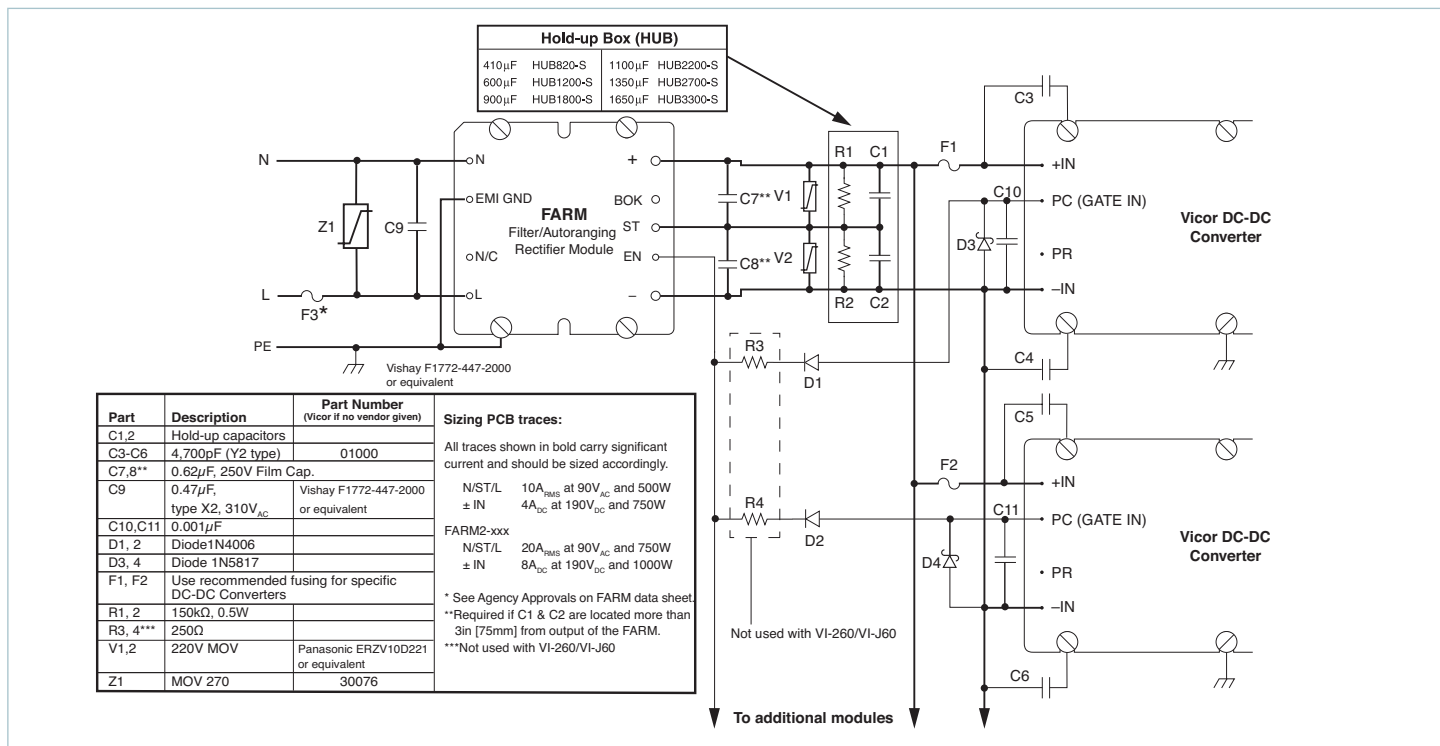

Figure 9 — Offline power supply configuration
Strap (ST) Pin: In addition to input and output power pin connections, it is necessary to connect the Strap pin to the center junction of the series hold-up capacitors (C1, C2, see Figure 9) for proper (autoranging) operation. Metal oxide varistors, V1 and V2 provide capacitor protection. The bleeder resistors (R1, R2, see Figure 9) discharge the hold-up capacitors when power is switched off. Capacitors C7 and C8 are recommended if the hold-up capacitors are located more than 3in [75mm] from the FARM output pins.
It should be noted that the series combination (C1, C2, See Figure 9) requires each capacitor to be twice the calculated value, but the required voltage rating of each capacitor is reduced to 200V. Allowable ripple voltage on the bus (or ripple current in the capacitors) may define the capacitance requirement. Consideration should be given to converter ripple rejection and resulting output ripple voltage.